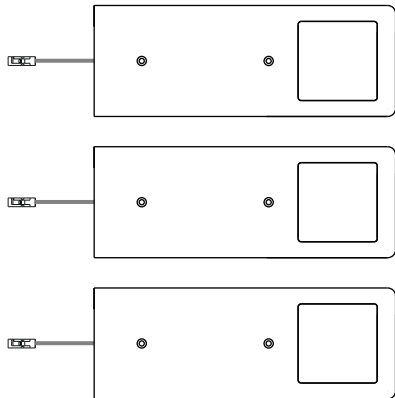

Fig 5
**POLAR D-MOTION VERSION OPERATION (fig.5):**
#### **FUNKTIONSWEISE POLAR D-MOTION (Abb.5):**
#### **FONCTIONNEMENT POLAR D-MOTION (fig.5)**
#### **FUNCIONAMIENTO POLAR D-MOTION (fig.5)**